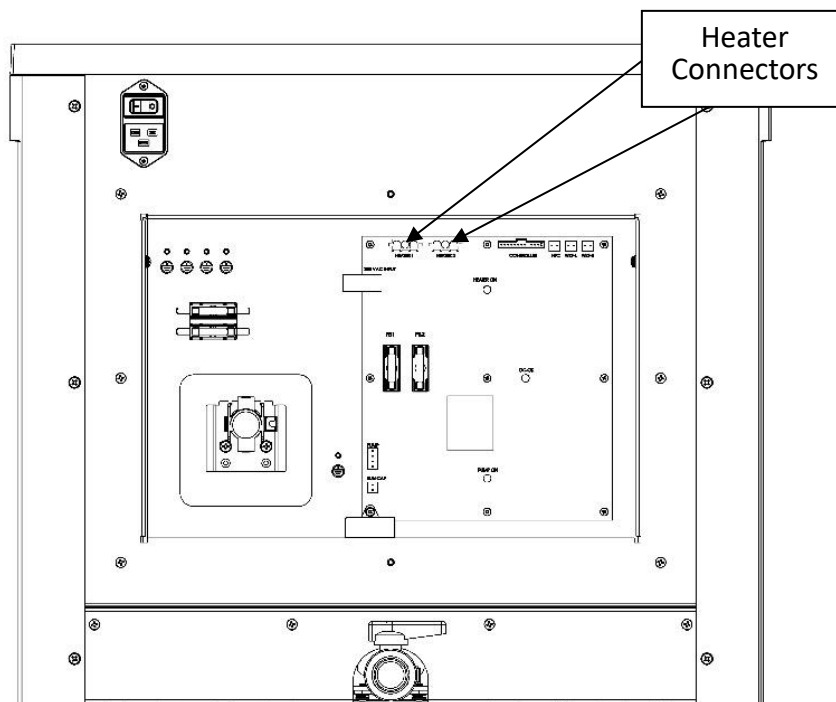

Figure 10 – Heater Connectors
- c. Unplug the Heater Assembly's two connectors from the PCB Assembly (See Figure 10).